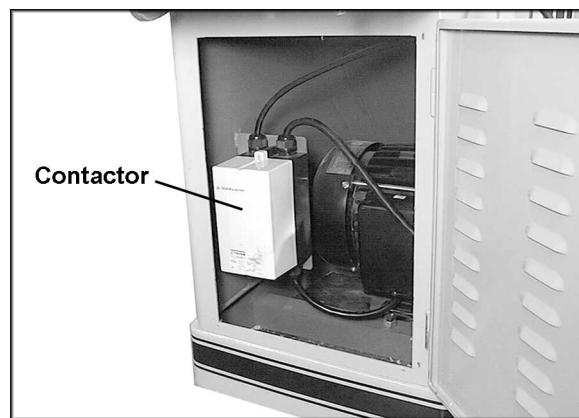

Figure 7
4. Replace the 230 volt contactor (see Figure 7) with the 460 volt contactor (stock no. PJ1285-109). The 460 volt contactor is available through your authorized Powermatic distributor, or by calling 1-800-274-6848.